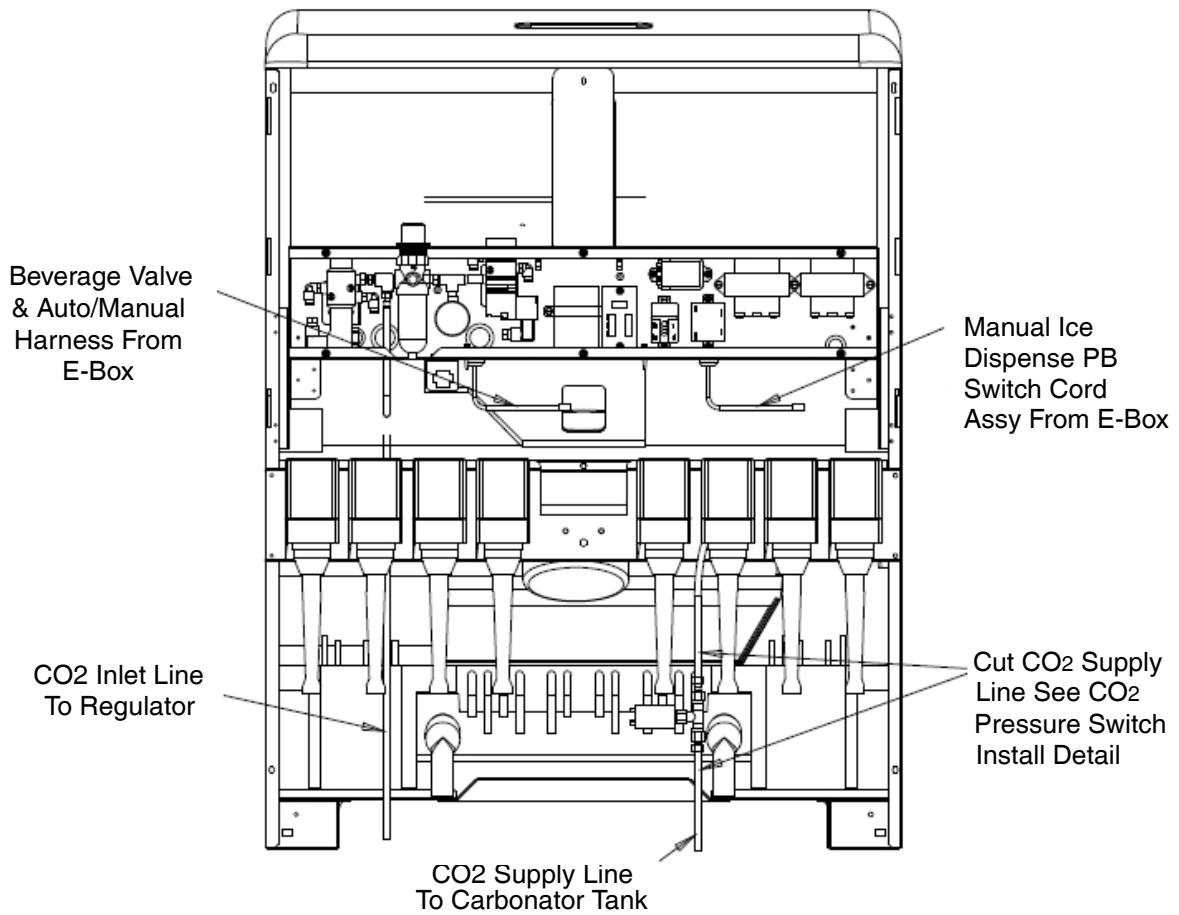

Figure 1.
1. Remove the upper front panel which is secured to the cabinet by “hooks” that fit into slots on the cabinet front flange. Lift up on the panel right and left sides to disengage the hooks from the slots and then rotate the panel downward and forward to remove from the cabinet. Disconnect the (3) electrical harnesses at the rear of the front panel.
3. Locate the CO₂ supply line (1/4 beverage tubing) to the carbonator tank located on the right side of the unit above the cold plate (see Figure 1). Cut this line in an area that will be accessible for future servicing and install the CO₂ pressure switch with the fittings provided in the kit (see Figure 3).